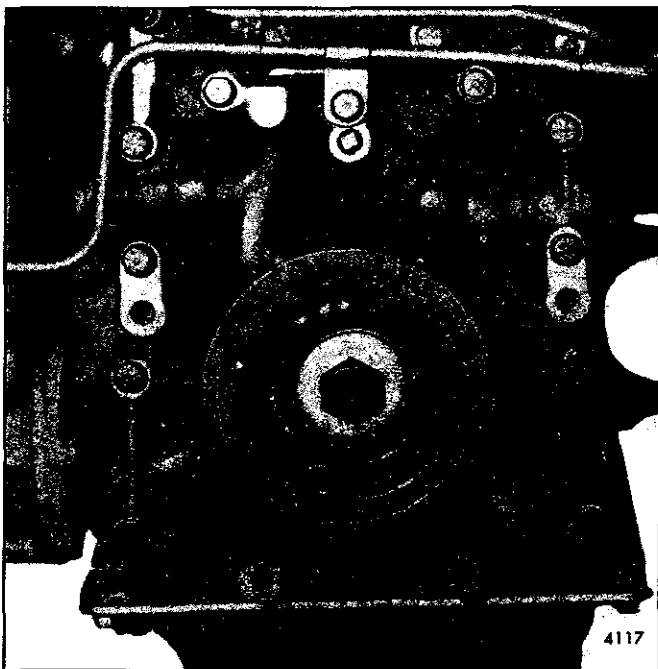

Fig. 1 — Engine Front Cover Mounting (Lower) —
The engine lower front cover is mounted against the cylinder block at the lower front end of the engine (Figs. 1 and 2). It serves as a housing for the crankshaft front oil seal, the lubricating oil pump, the oil pressure regulator valve and the oil cooler by-pass valve. The clean-out openings in the periphery of the current cover incorporate tapped holes and 1/2"-14 threaded plugs.
6. Refer to Figs. 1 and 2 and install the 3/8"–16 bolts and lock washers. Tighten the bolts to 30–35 lb-ft (41–47 N·m) torque.